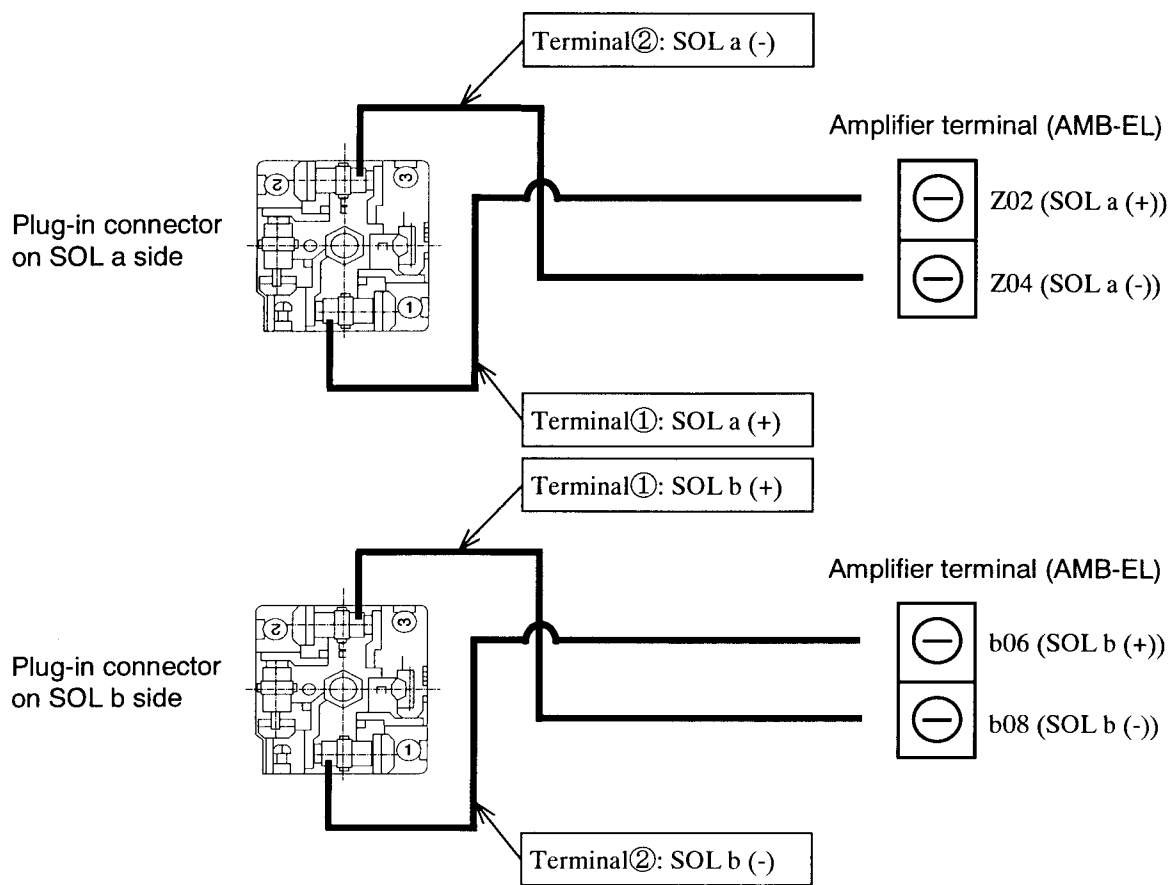

Figure 10 Terminal Block and Amplifier Terminal
- (4) Refer to Figure 10 for wiring of the terminal block and the amplifier terminal.